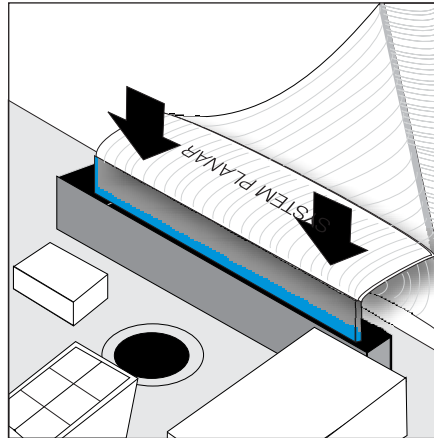

Figure 109. Install the service controller card cable into the system board
11. To reinstall the cables, *carefully* install the one end of the ribbon cable (marked System Planar) to the system board being sure to install the cable straight in. See Figure 109 on page 281.